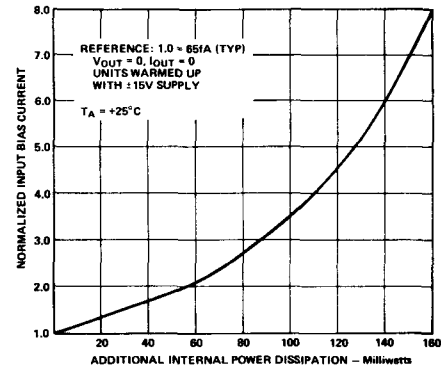

Figure 9. Input Bias Current Versus Additional Power Dissipation
- Output loading effects, which are normally ignored, can cause a significant increase in chip temperature and therefore bias current. For example, a  $2\text{k}\Omega$  load driven at 10 volts at the output will cause at least an additional 25 milliwatts dissipation in the output stage (and some in other stages) over the typical 24 milliwatts, thereby at least doubling the effects of self-heating. The results of this form of additional power dissipation are demonstrated in Figure 9, which shows normalized input bias current versus additional power dissipated. Therefore, although many DC performance parameters are specified driving a  $2\text{k}\Omega$  load, to reduce this additional dissipation, we recommend restricting the load impedance to be at least  $10\text{k}\Omega$ .